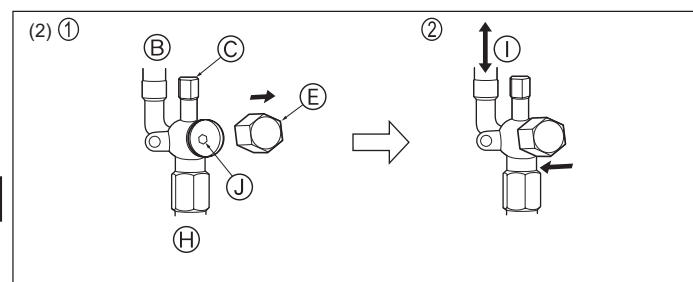

Fig. 4-11
(2) Liquid side (Fig. 4-11)
① Valve body	⑥ Completely closed
② Unit side	⑦ Completely open
③ Service port	⑧ Refrigerant piping side (On-site installation)
④ Handle	⑨ Direction the refrigerant flows in
⑤ Cap	⑩ Valve stem